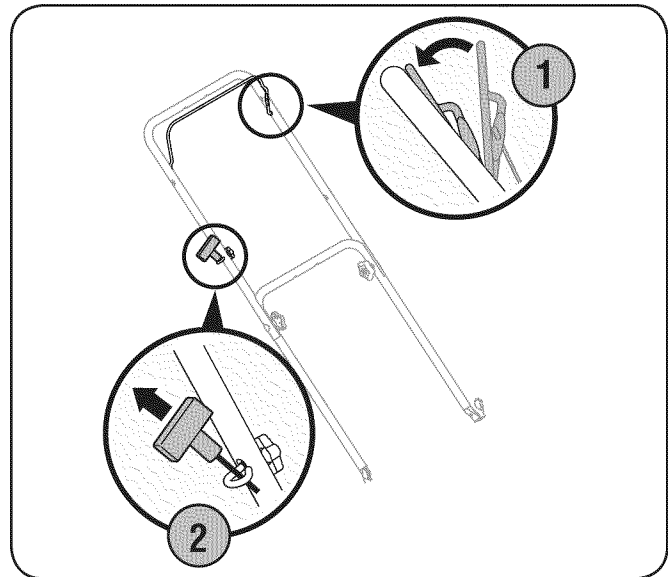

Figure 5-1
1. Standing behind the mower, depress the blade control handle and hold it against the upper handle. See Fig. 5-1.